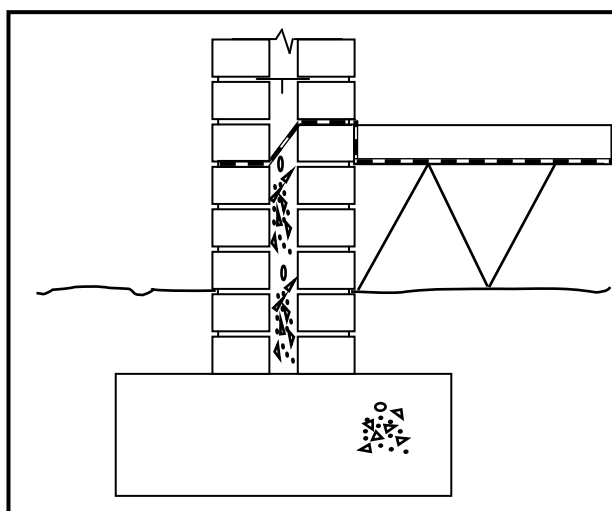

FIGURE 2.10
2.10 FIGURE 2.10 below shows the incomplete drawing of a sectional view of the substructure of a cavity wall.